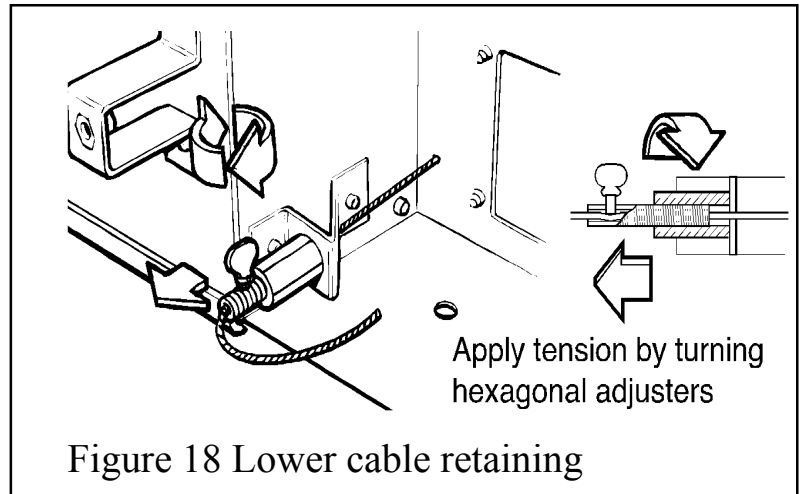

Figure 18 Lower cable retaining
7. Pull each cable taut. Push the cable retainers hard up against the “V” brackets. Tighten the screws in the retainers so that they clamp the cables in position. Apply tension to the cables by turning the hexagonal adjusters by hand. See figure 18.